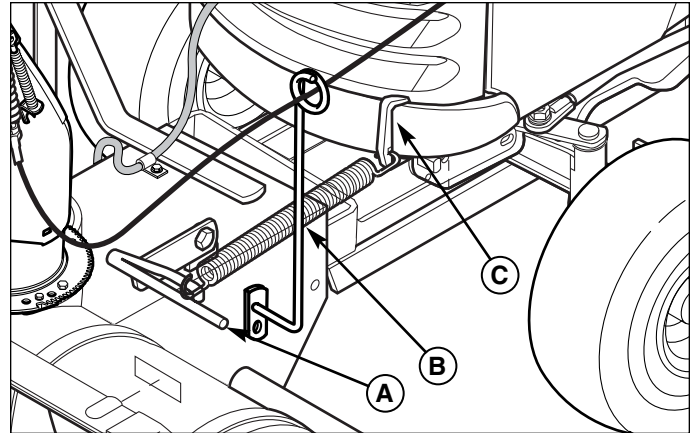

Figure 21. Lift Assist Spring
5. Assemble the lift assist spring (B, Figure 21) and spring bracket (C). Install the spring assist bracket (C) in the front bumper. Be sure the spring notch is in the lower position.
6. Rotate the assist spring lever (A) backwards. Hook the spring (A) on the lever (C) and rotate the lever forwards.